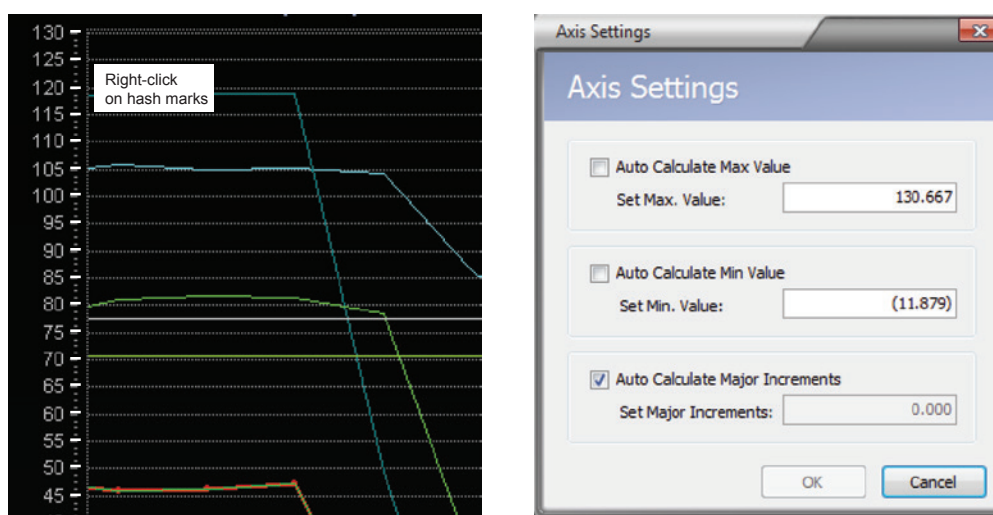

Figure 2.18—Accessing the Axis Settings dialog
1. Right-click on the tick marks to the right of the Y axis scale values. The *Axis Settings* dialog will appear (Figure 2.18).